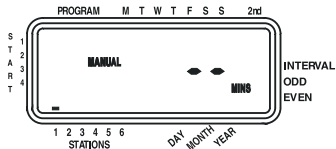

Figure 13
- Press the manual key. Then press next three times. The display will show a blinking cursor on station 1 along with -- MINS [See Figure 13].